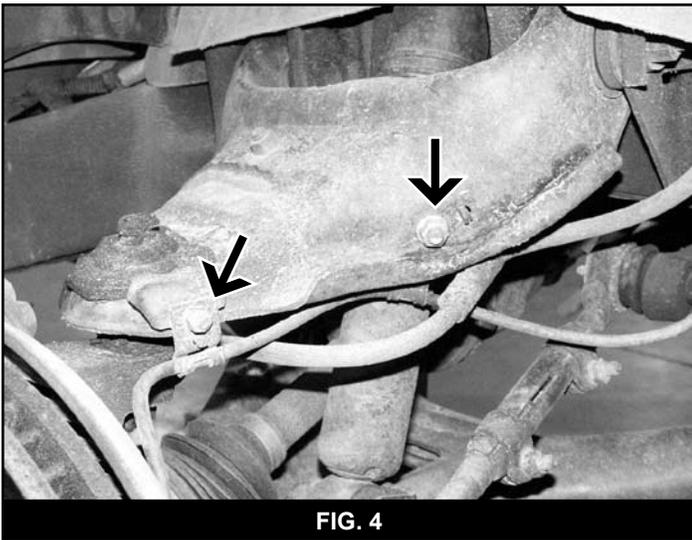

FIG. 4
13. Disconnect the brake line and ABS lead from the upper control arm and retain fasteners (Fig 4).